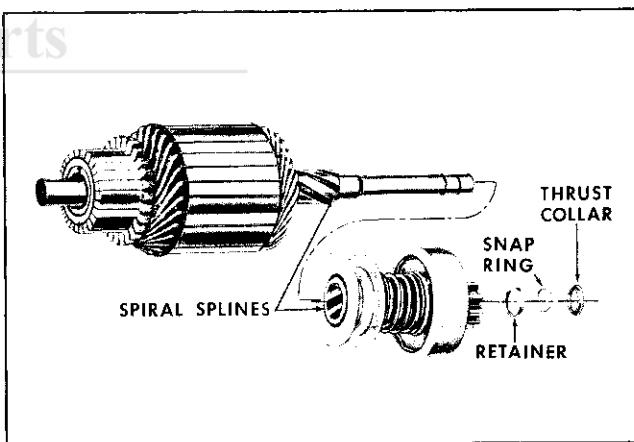

Fig. 6E-1 Armature and Overrunning Clutch Assembly
b. Slide a standard half-inch pipe coupling or other metal cylinder of suitable size (an old pinion of suitable size can be used if available) onto shaft so end of coupling or cylinder butts against edge of retainer (Fig. 6E-2). Tap end of coupling with hammer, driving retainer towards armature and off snap ring.